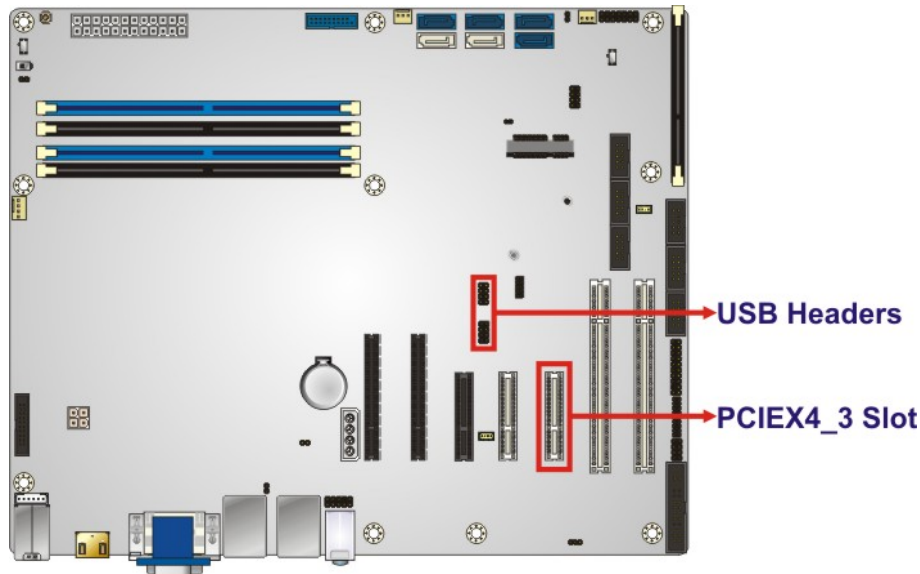

Figure 4-15: PCIEX4_3 Slot Location
Step 1: Install the expansion card to the **PCIEX4_3** slot on the motherboard. Align and insert the PCIe edge connector on the bottom of the expansion card to the **PCIEX4_3** slot (**Figure 4-15**) on the IMBA-C2360-i2. Then, push down gently on the expansion card to make sure it is firmly inserted into the **PCIEX4_3** slot.